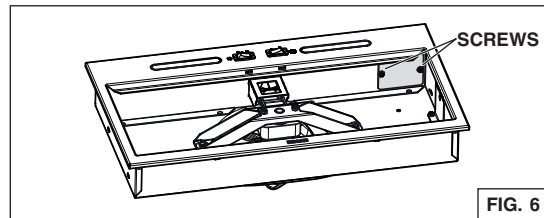

FIG. 6
3. Disassemble the electrical compartment cover (grey part in Fig. 6) from inside the power module by removing both its retaining screws. Set aside the cover along with its screws.